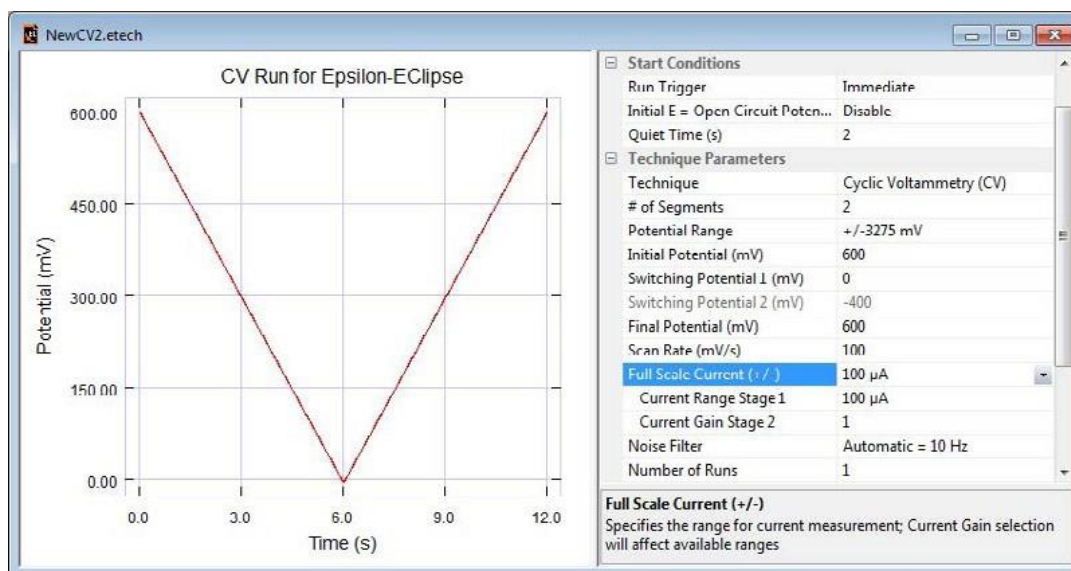

Figure 2 - Editing the .etch for Cyclic Voltammetry
4. Select **Cyclic Voltammetry**. The new .etech file can now be edited. Enter the values shown in **Figure 2**. Note that **Switching Potential 2** is not required since there are only 2 segments (**Initial Potential** to **Switching Potential 1** to **Final Potential**). Various experimental data can be entered into the **Experimental Conditions** section. These notes will also be saved when the experimental data is saved. Once these changes have been entered, an experiment using these parameters can be run by clicking the **RUN** button. An experiment can be run using either **Run** in the **Experiment** menu, or the **RUN** icon on the Tool Bar. This icon will change to **STOP** during the experiment, and can be used to abort the experiment.
When opening a file, all stored technique parameters are available on the right side of the graph (Fig2). Upon opening a legacy file, the experimental data is displayed. The technique windows can be dragged to a different position within the main window. Multiple windows can be tiled vertically, horizontally, or cascaded using the appropriate options in the Window menu.